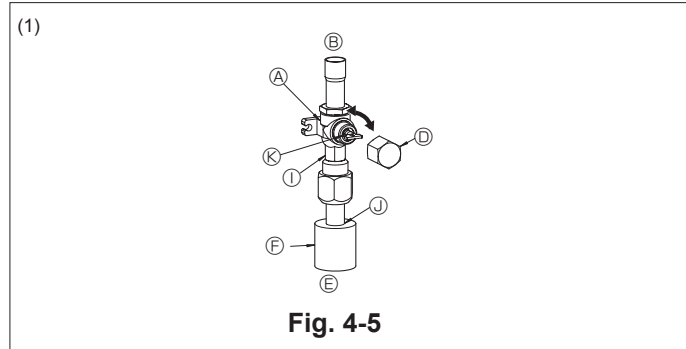
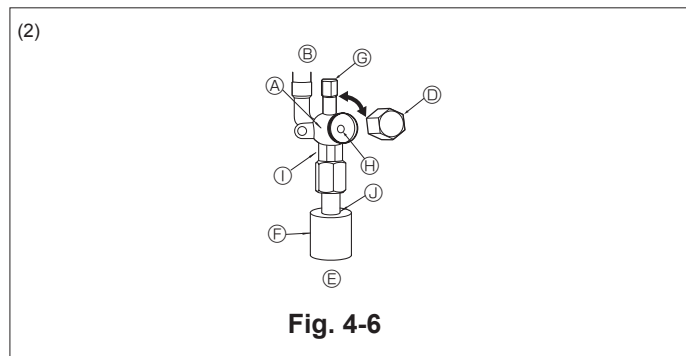

Fig. 4-5
Fig. 4-6
- (1) Gas side (Fig. 4-5)
- ① Remove the cap, pull the handle toward you and rotate 1/4 turn in a counterclockwise direction to open.
- ② Make sure that the stop valve is open completely, push in the handle and rotate the cap back to its original position.
- (2) Liquid side (Fig. 4-6)
- ① Remove the cap and turn the valve rod counterclockwise as far as it will go with the use of a 4 mm hexagonal wrench. Stop turning when it hits the stopper. (ø6.35, 1/4 inch: Approximately 4.5 revolutions) (ø9.52, 3/8 inch: Approximately 10 revolutions)